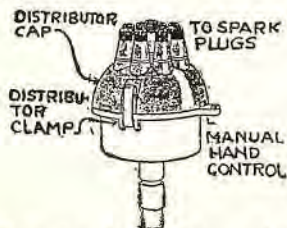

Fig. 7A. Illustrating the distributor and timer unit as shown in Fig. 2. Termed the “Unisarker.”
The distributor, which distributes the current to the spark plugs (six, in this instance) in their respective firing order of 1, 4, 2, 6, 3, 5, is mounted on the upper end of the shaft. The distributor arm (DA), revolves with the timer shaft and passes the high-tension current to the terminals of the distributor. As six sparks are required per revolution, there are six notches on the timer cam, and the distributor points are spaced 60° apart. Fig. 7A shows the parts of the distributor. A secondary cable of 5/16" outside diameter is used for the secondary circuit.